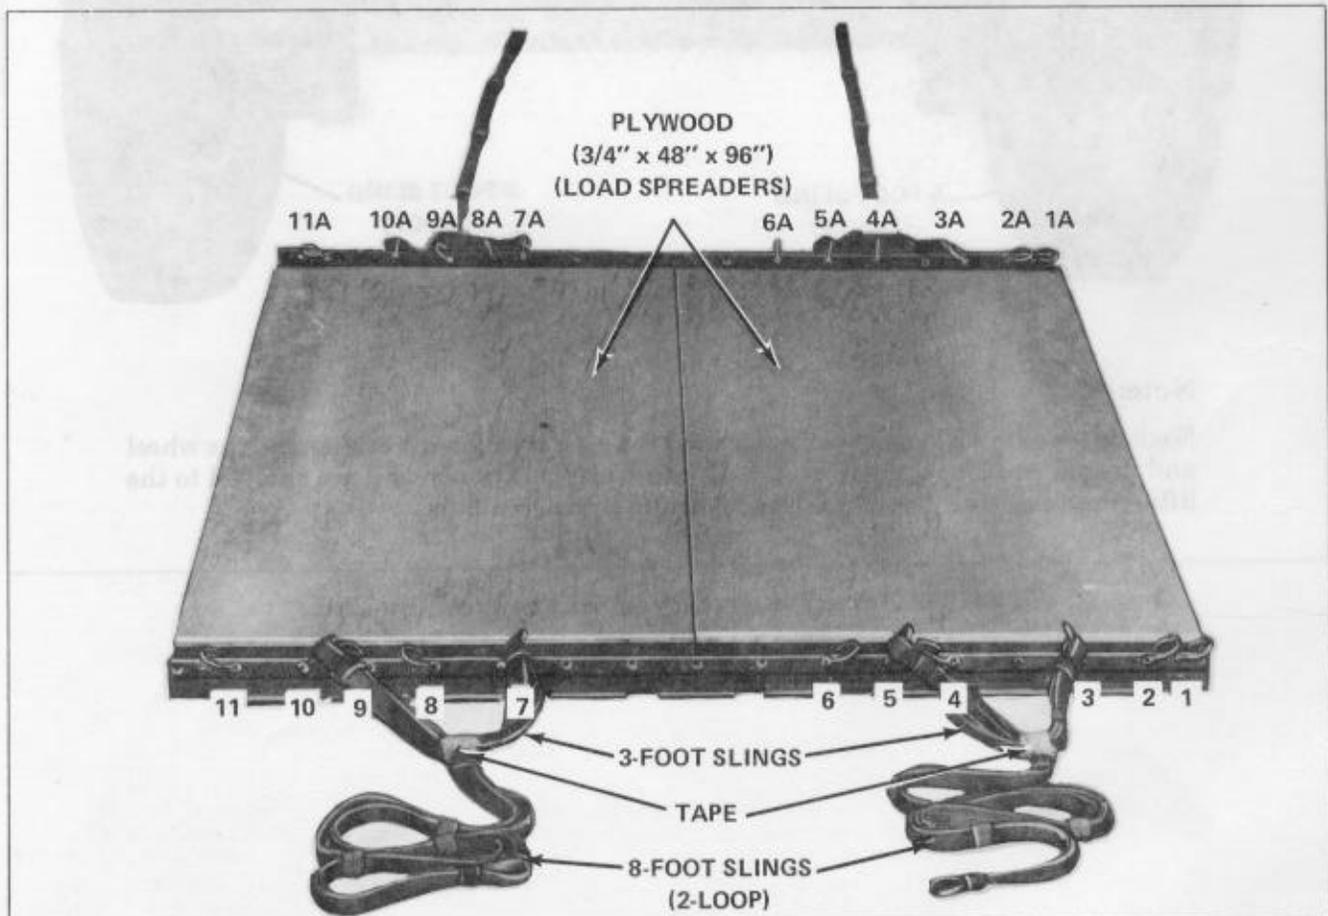

Figure 2-1. Platform prepared.
Prepare an 8-foot modular platform (fig 2-1) as follows:
*b. Installing Suspension Slings.* Form suspension slings with four 3-foot slings and four 8-foot slings (2-loop). Pass a 3-foot sling through the loop of an 8-foot sling. Place a tiedown clevis in each end of the 3-foot sling and attach the clevises to the platform. Repeat procedure for the remaining slings. Starting at the front of each rail, attach clevises to the 3d and 6th clevis holes for the front slings and to the 12th and 15th clevis holes for the rear slings. Tape the loop of one 8-foot sling to the center of 3-foot sling (fig 2-1).
*d. Positioning Load Spreader.* Position load spreader on the platform as shown in figure 2-1.